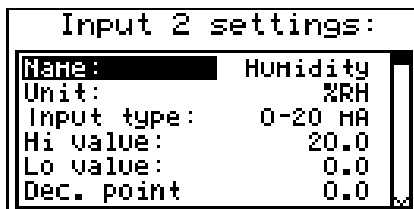

Fig. 7.13. "Inputs settings" (part 1)
**"Upper ext."** - parameter defining the allowable range of input currents (Fig. 7.13).